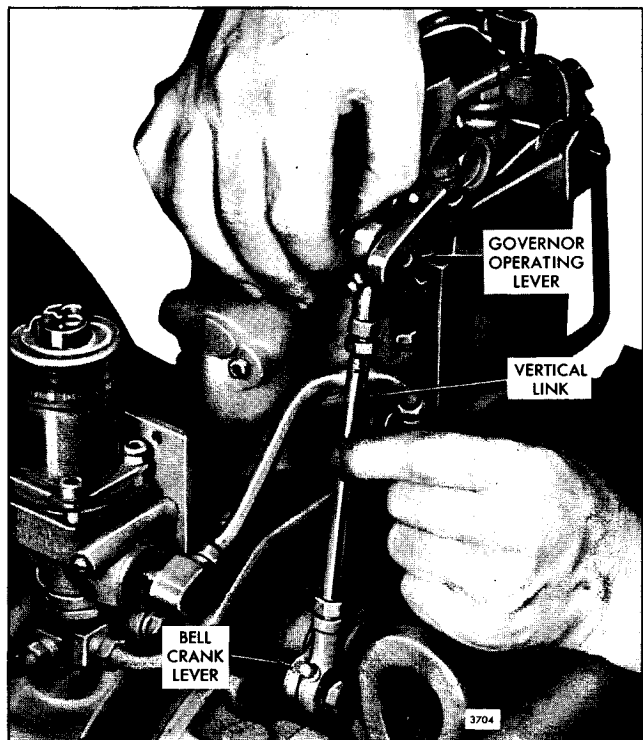

Fig. 5 - Adjusting Vertical Link
15. Adjust the length of the vertical link so that the bolt holes of the levers and the centers of the rod end bearings are lined up (Fig. 5).